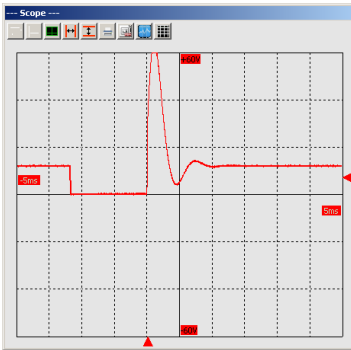

Figure 7.4
5. *Coupling type* : The coupling type can be changed using this icon. It can either be AC or DC (Figures 7.4 and 7.5). A detailed explanation of these terms can be found in the Dictionary paragraph.